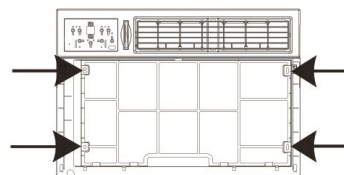

Fig.2
3. Remove the four front screws. These will be needed to re-install the front panel. (Figure 2)